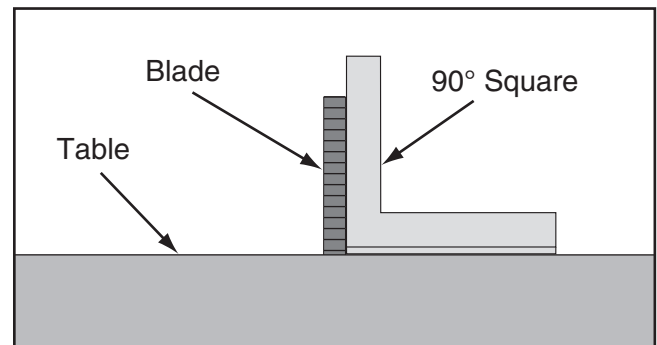

Figure 154. Machinist's square against blade and table.
4. Use machinist's square to check if main blade is square to table (see **Figure 154**).